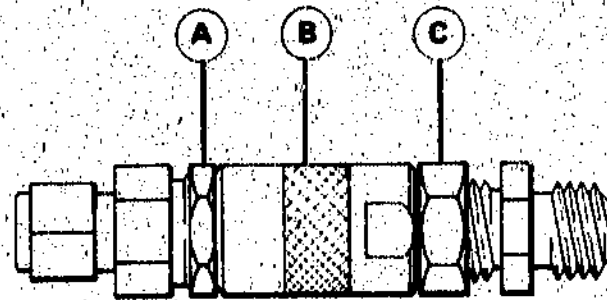

Figure 5-2. Delay Line Assembly
e. Switch REFERENCE POSITION CH 2 to on (IN) adjust REFERENCE POSITION \blacklozenge to center trace. Set REFERENCE POSITION to off (OUT).
f. Loosen nuts (A) and (C) as shown in Figure 5-2 on both Delay Lines.
- g. Turn barrel (B) as shown on Figure 5-2 clockwise to shorten the overall length of the delay line on both delay lines to minimum.
- i. Change 8748A S-PARAMETER SELECT switch to $S_{22} S_{12}$ and note slope of displayed trace. If trace slopes up, lengthen delay line 2 by rotating barrel (B) counter-clockwise until the trace is level.
- j. If trace slopes down, readjust 8748A PHASE B/R LENGTH to level the trace. Return 8748A S-PARAMETER SELECT switch to $S_{11} S_{21}$. Displayed phase trace should now slope up. Lengthen delay line 1 by turning barrel (B) counter-clockwise until trace is level.
- l. Tighten nuts (A) and (C) and reverify that phase difference is minimized.